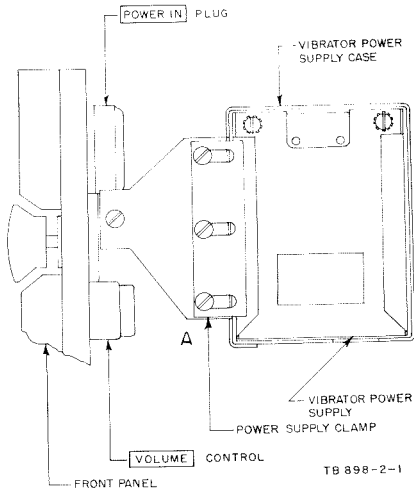

Figure 31. Correct position of power supply clamp.
- The seating of the power supply clamp. In many cases, the vibrator power supply becomes loose because of vibration. This situation may be corrected by fastening the clamp in the correct position (fig. 31).